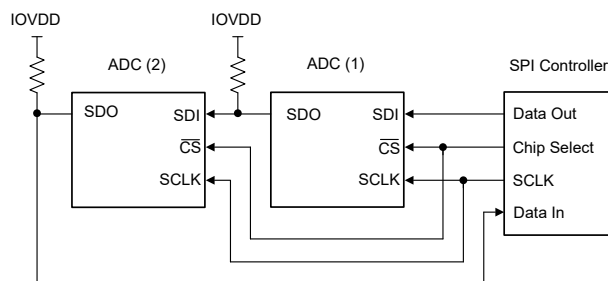
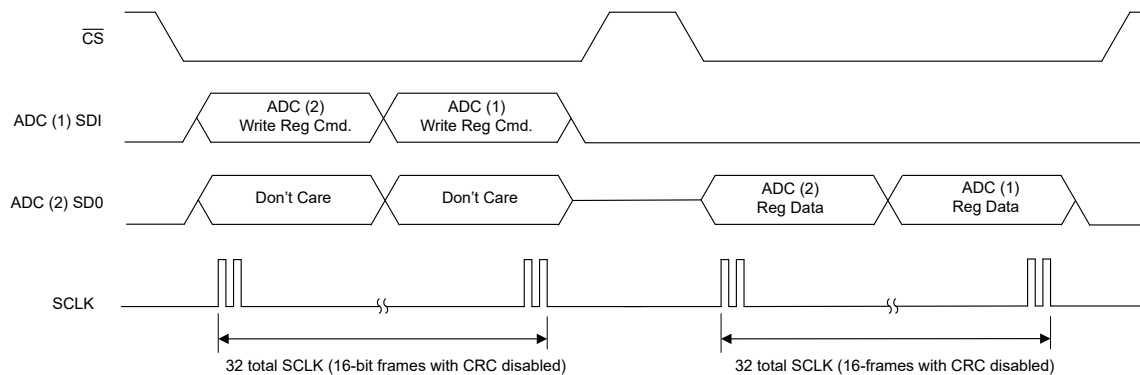

図 7-50. SPI Daisy-Chain
図 7-51. SPI Daisy-Chain Register Write Data Format
FIG 7-50 shows a two-device, daisy-chain connection and FIG 7-51 shows the data format for a register write commands for each device. The *Data Out* line of the controller connects to ADC (1) SDI and ADC (2) SDO connects to the *Data In* line of the controller. ADC (1) input data is shifted out on SDO to drive the ADC (2) SDI. The shift operation continues until the last device in the chain is reached. The SPI frame ends when $\overline{CS}$ is taken high, at which time the data shifted in to each device are interpreted. The second frame shifts out the register data from both devices through the ADC (2) SDO pin.